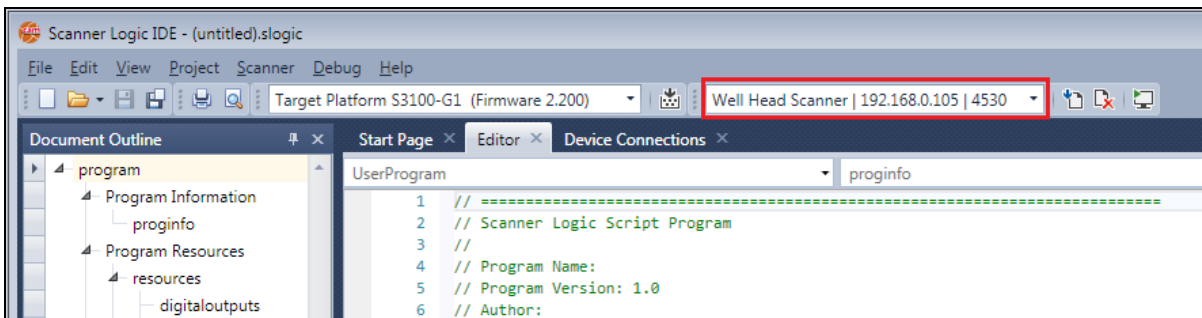

Figure 5.3—Device Connection selector
2. Choose the desired device connection by selecting **Scanner>Select Device Connections** or by clicking in the Device Connection selector (*Figure 5.3*) and selecting the desired connection.